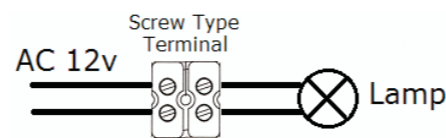

Figure 2-1
- Terminal blocks must meet the IEC60988-2-1 standard having the rated connecting capacity of 4,0mm2 use of screw-type terminal at least 25A rated current, mounted on junction boxes inside. See Figure 2-1